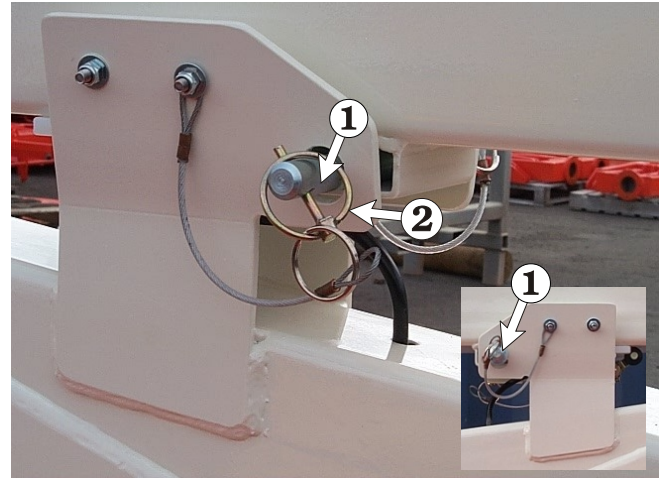

Figure 10.3 - Upper Boom Lock Pin
4. Insert upper boom pin ① in place and ensure the snap pin ② is correctly locked in place through the boom pin (see Figure 10.3)